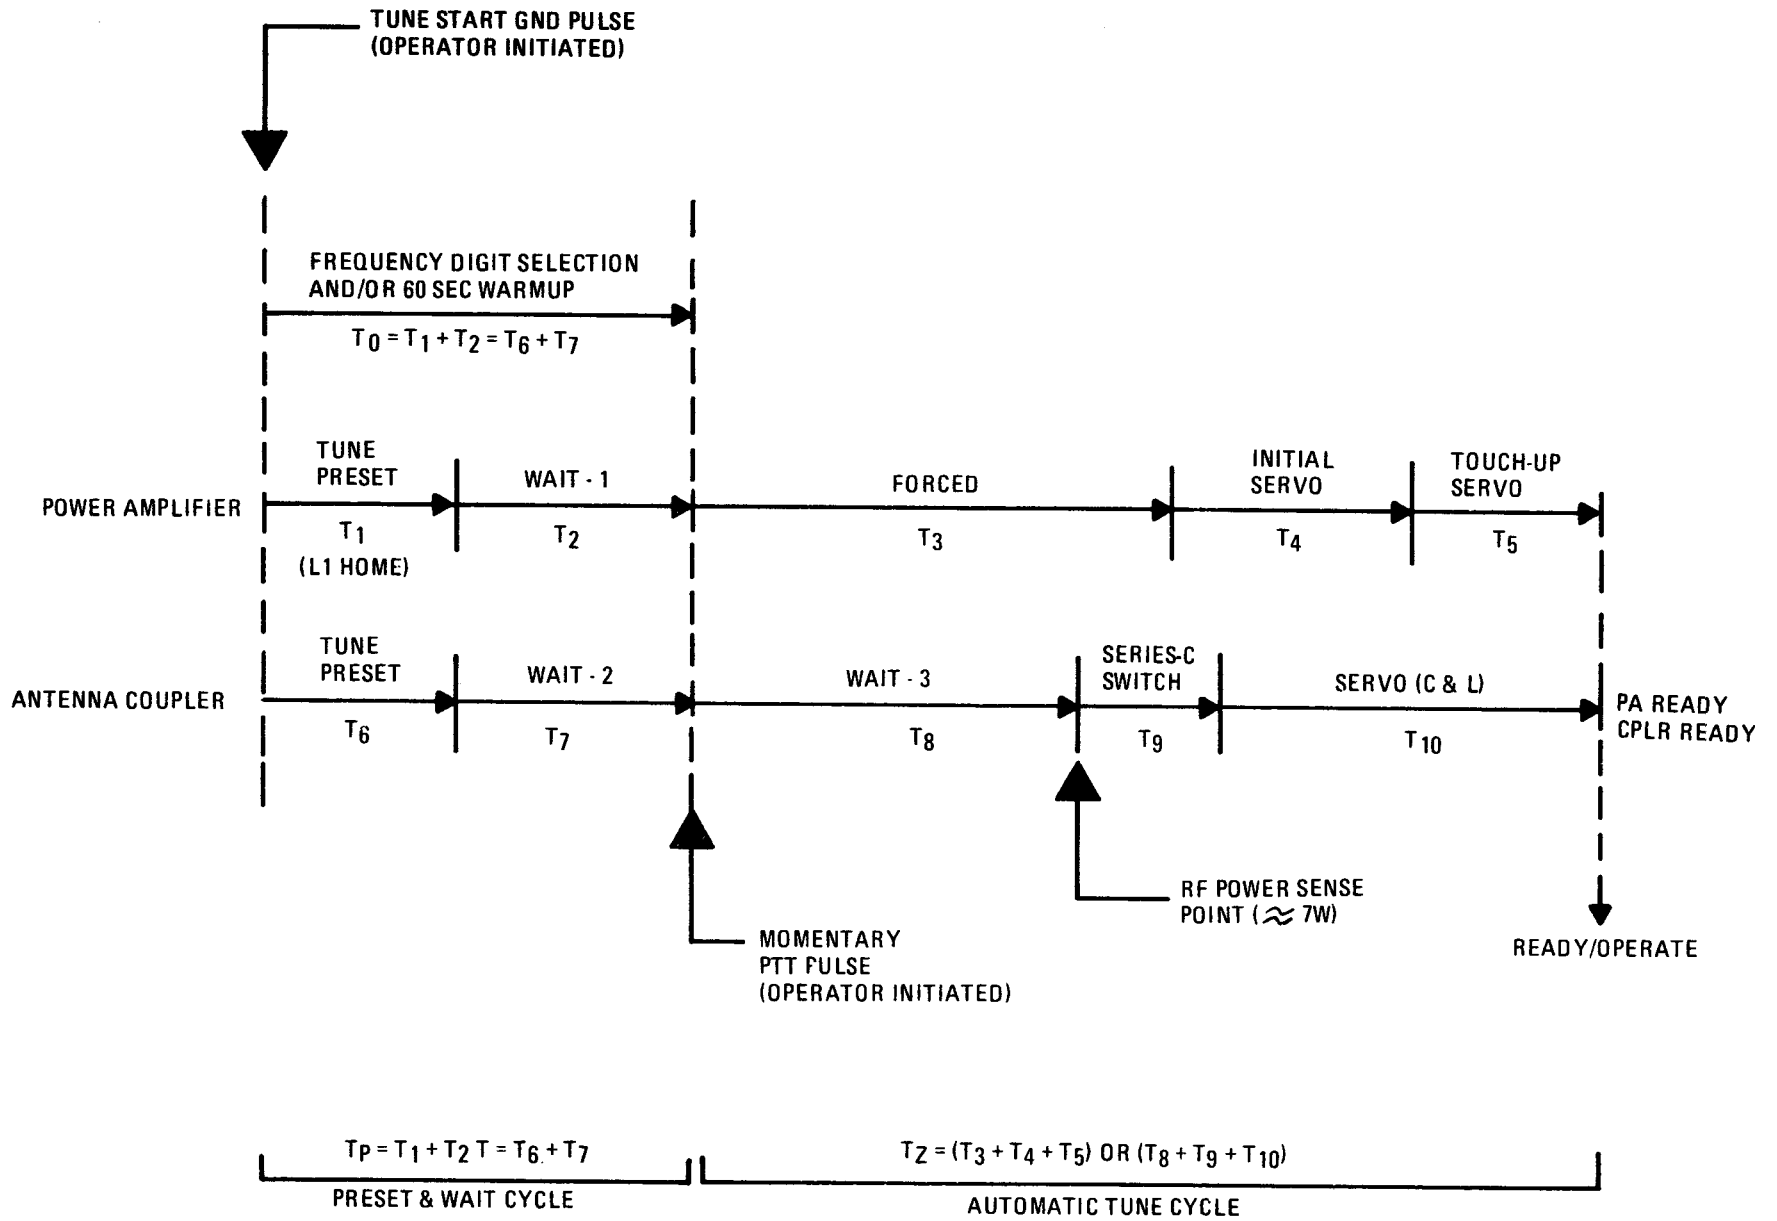

Figure 2-6. System Tune Cycle Detail
2-69. This section describes the operation of power amplifier circuits as they are used during tune cycle operation. The rf signal amplifier circuits used in the power amplifier, with the exception of Tank Circuit Module Assembly 1A8, are all of the wideband type and therefore require no tuning when operated over the 2 to 30 MHz frequency range. However, π network tube Tank Circuit Module Assembly 1A8 must be tuned at the desired operating frequency to match the tube plate resistance (RP), of about 1600 ohms, to the 50 ohm output impedance of the power amplifier (input impedance of the antenna coupler) and attenuate unwanted signals harmonically related to the carrier frequency. A Tune Cycle is initiated automatically when the dc power is initially switched on or when the receiver-transmitter frequency setting is changed, with the exception of the 100 Hz setting. The general sequence of operations during the Tune Cycle is shown in figure 2-6 for the power amplifier and the antenna coupler. The Tune Cycle is divided into the Preset and Wait Cycle and the Automatic Tune Cycle.
2-71. The Preset and Wait Cycle is automatically initiated by a >30 millisecond ground pulse (Tune Start) from the receiver-transmitter. After Tune Start initiation, the power amplifier and the antenna coupler tuning circuits are latched into the Tuning Mode of operation, thus inhibiting the normal Receiver-Transmit (Rx-Tx) mode of operation. As shown in figure 2-6, during the T_1 and T_6 time periods, power amplifier and antenna coupler circuits and relays are switched and variable tuning elements returned to their home (or starting) positions (e.g., variable coil 1A8A5L1 is driven to the maximum inductance setting) in preparation for initiation of the Automatic Tune Cycle.